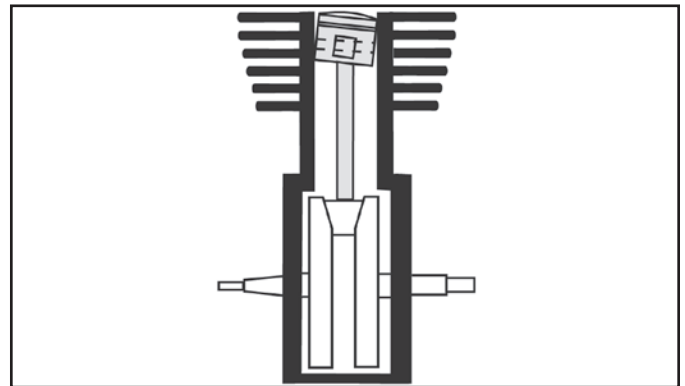

Figure 6
- D. Move piston towards driveside of engine and repeat Step C. If inaccuracies are present due to machining variations in cases, cylinders or pistons, top land of piston deck will appear closer to cylinder wall at one point around circumference. This means that piston is cocked in cylinder bore and can be corrected by bending rod in opposite direction. **Figure 6, above right,** shows an exaggerated side view of this condition.